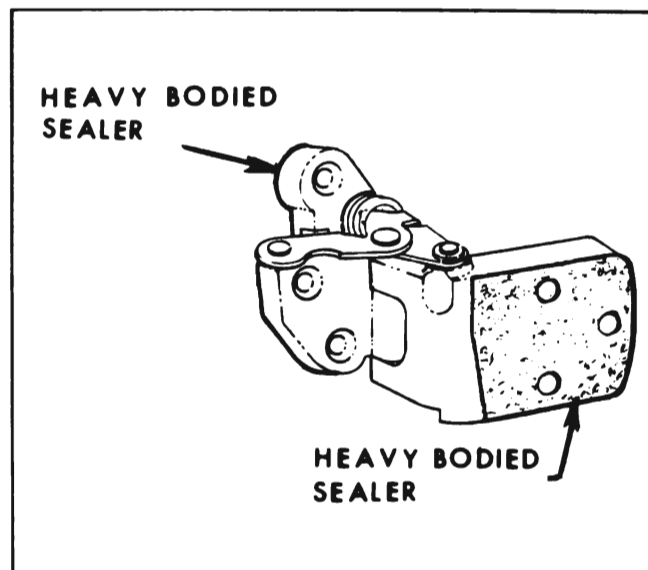

Figure 13-48—Rear Door Hinge
2. Apply a coat of heavy-bodied sealer to attaching surfaces of hinge straps or corresponding surfaces of door or body. See Figure 13-48.